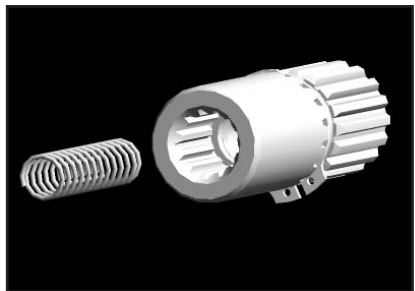

Fig. 9
- d. Install spring into pump shaft as shown in **Fig. 9**.